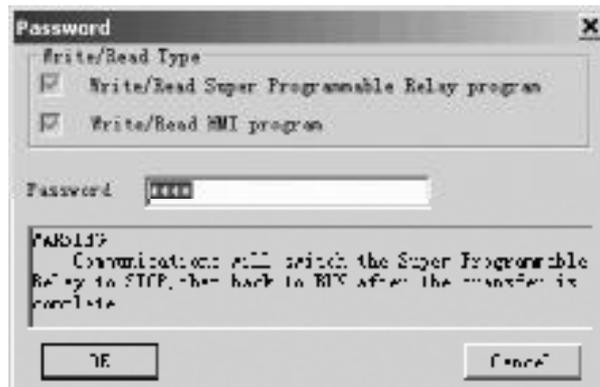

Fig. 4.23 Confirm Password
- c. Click option “PC->Super Programmable Relay” under menu “Controller”; or click button “”in toolbar, dialog box shown as Fig. 4.23, input your password (attn: the original password is 0001).
- a. Click option “Super Programmable Relay->PC” under menu “Controller” with left button of mouse, or click “”under toolbar, dialog box like Fig. 4.23 appears, input your password (Attn: the original password is 0001)